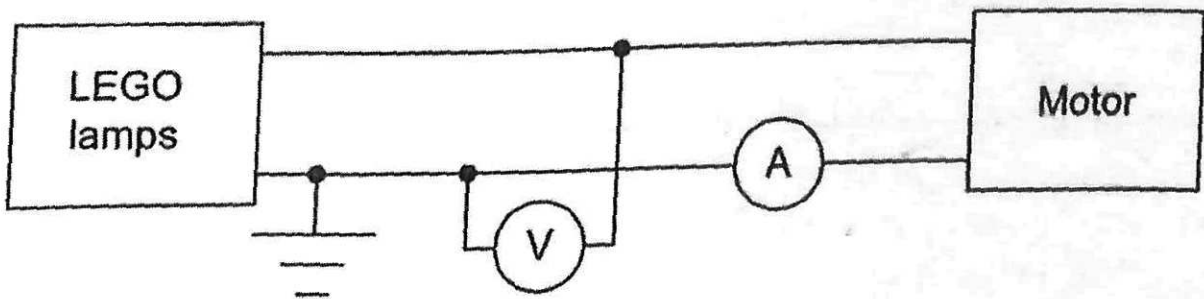

Figure 5.3.2: Electrical circuit diagram of the experiment.
1. Using Vernier current and voltage probes make a circuit shown in Figure 5.3.2.